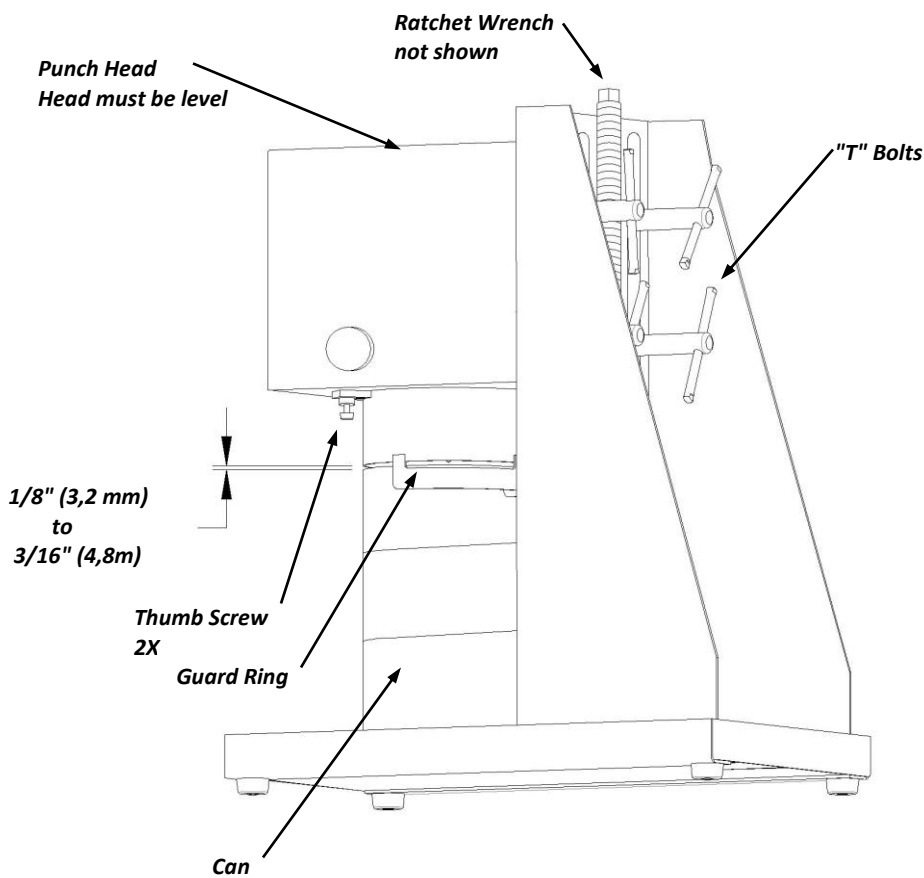

Figure 3
3. Insure the "T" handles are tight. They are located behind the head of the crown punch machine. The height, with the guard ring in place, must be such that when a can is in position under the crown punch, from the can seam to the lip of the guard ring is approximately 1/8 (3,2mm) to 3/16 (4,8mm), (Figure 3 On page 8).
2. Loosen the four (4) "T" bolts at the rear of the vertical (Figure 3) and raise or lower the Head as needed, keeping the can and guard ring aligned and level.
1. With one hand, hold up on the guard ring (Figure 3 on page 8) and with the other hand, unscrew the two (2) Thumbscrews (Figure 3 on page 8).
Remove the splash guard, crown punch, guard ring, and retainer clip (Figure 3 on page 8) after every use for cleaning. You may rinse down the entire machine with soap and water to remove any residue from the unit.